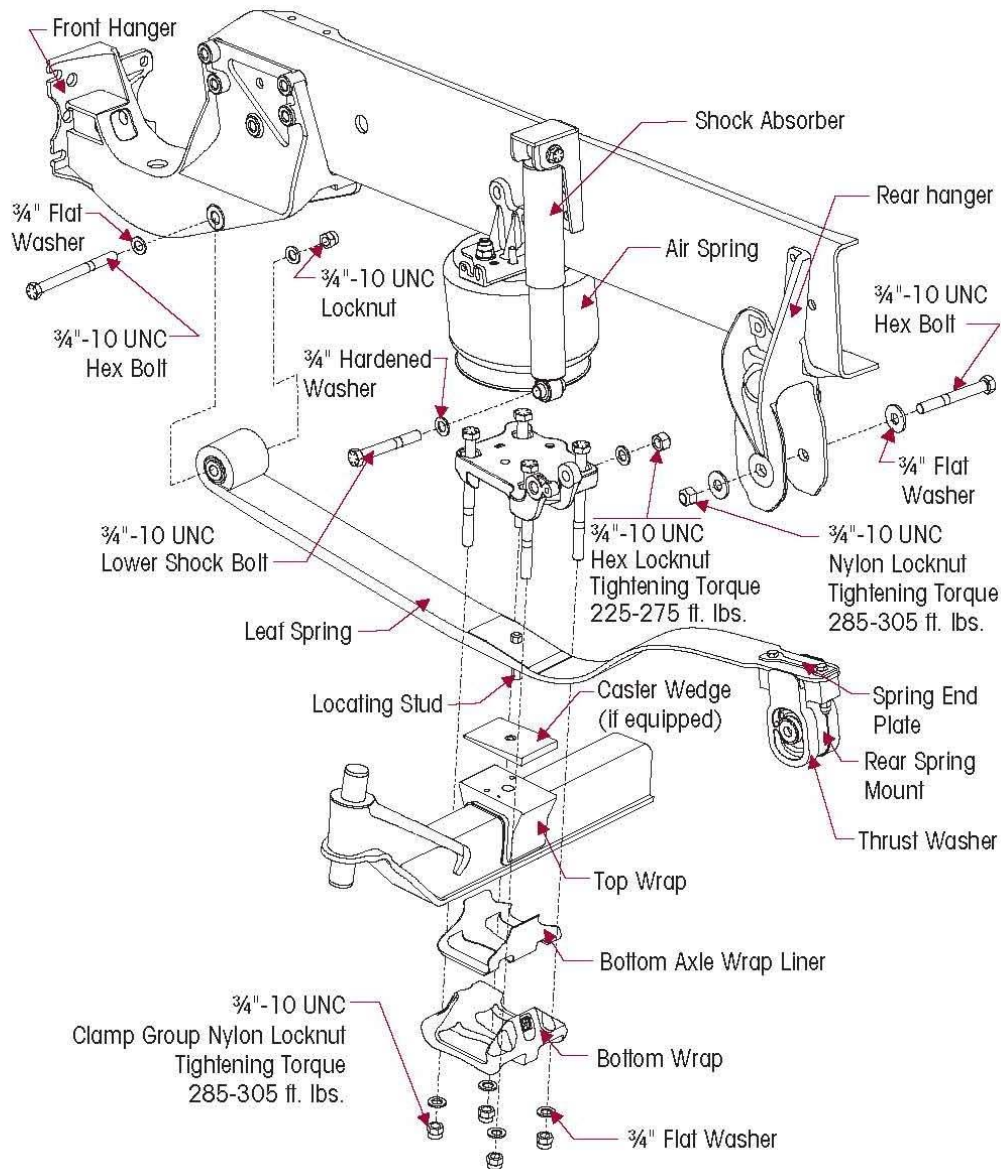

Figure 2
14. Remove the 3/4" clamp group fasteners, top pad, and the bottom axle wrap and liner from the leaf spring that is going to be removed (Figure 2).
11. Install the 3/4" rear spring eye bolt in the rear hanger. The bolt must be installed from the inboard side to the outboard side (see Figure 2).